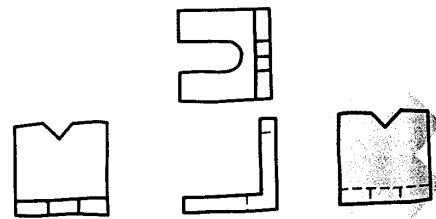

FIGURE 7.55 ■ Sketch the required views.
- Step 2. Select the other views needed to completely describe the shape of the V-BLOCK MOUNT, as shown in Figure 7.55.